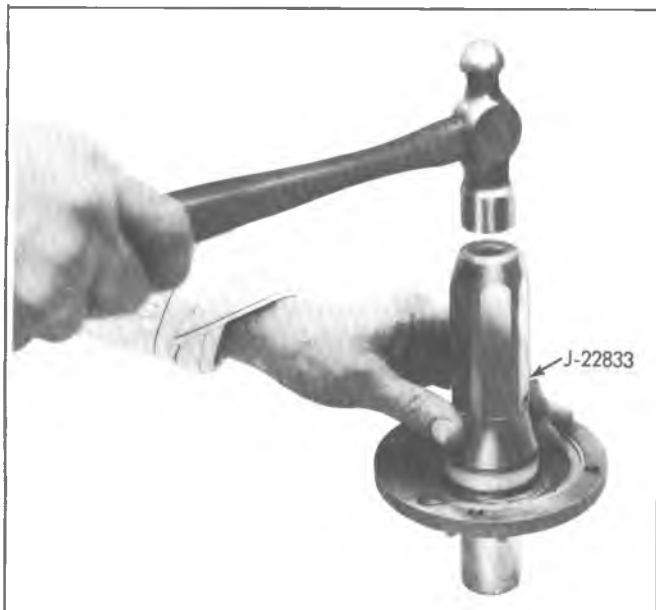

Fig. 7B-13L--Installing Bearing Retainer Oil Seal
**MAINSHAFT ASSEMBLY****Disassembly (Fig. 7B-14L)**